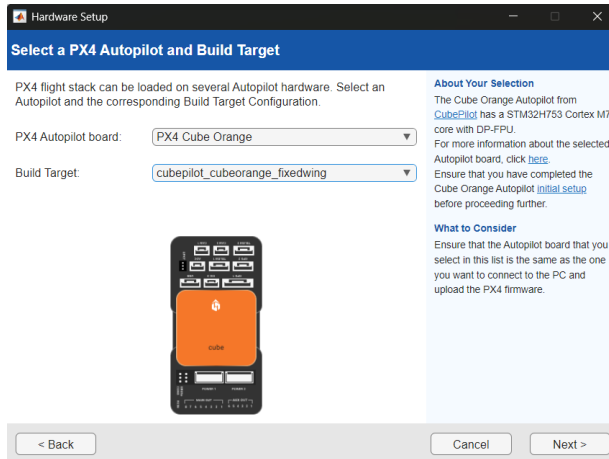

Figure B.7: Screenshot of the PX4 board and build selection window.
9. Select the appropriate PX4 Autopilot board and Build Target. For the experiments conducted in this thesis, the “PX4 Cube Orange” PX4 Autopilot Board was selected with the “cubepilot_cubeorange_fixedwing” build target as shown in Figure B.7. Make appropriate selections and proceed to the next screen.